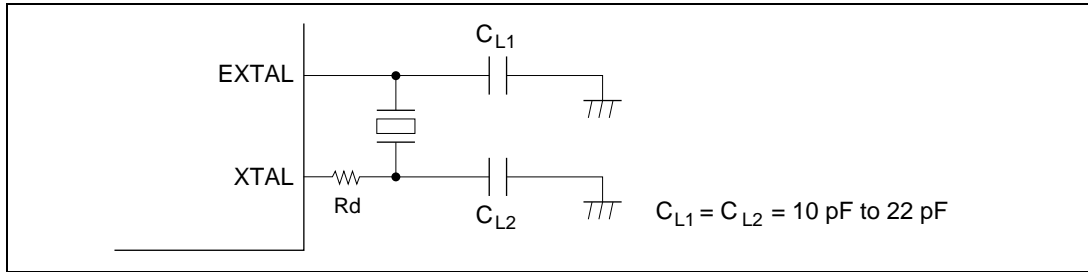

Figure 6-2 Connection of Crystal Oscillator (Example)
- (1) **Circuit Configuration:** An external crystal can be connected as in the example in figure 6-2. Table 6-1 indicates the appropriate damping resistance R_d . An AT-cut parallel resonance crystal should be used.